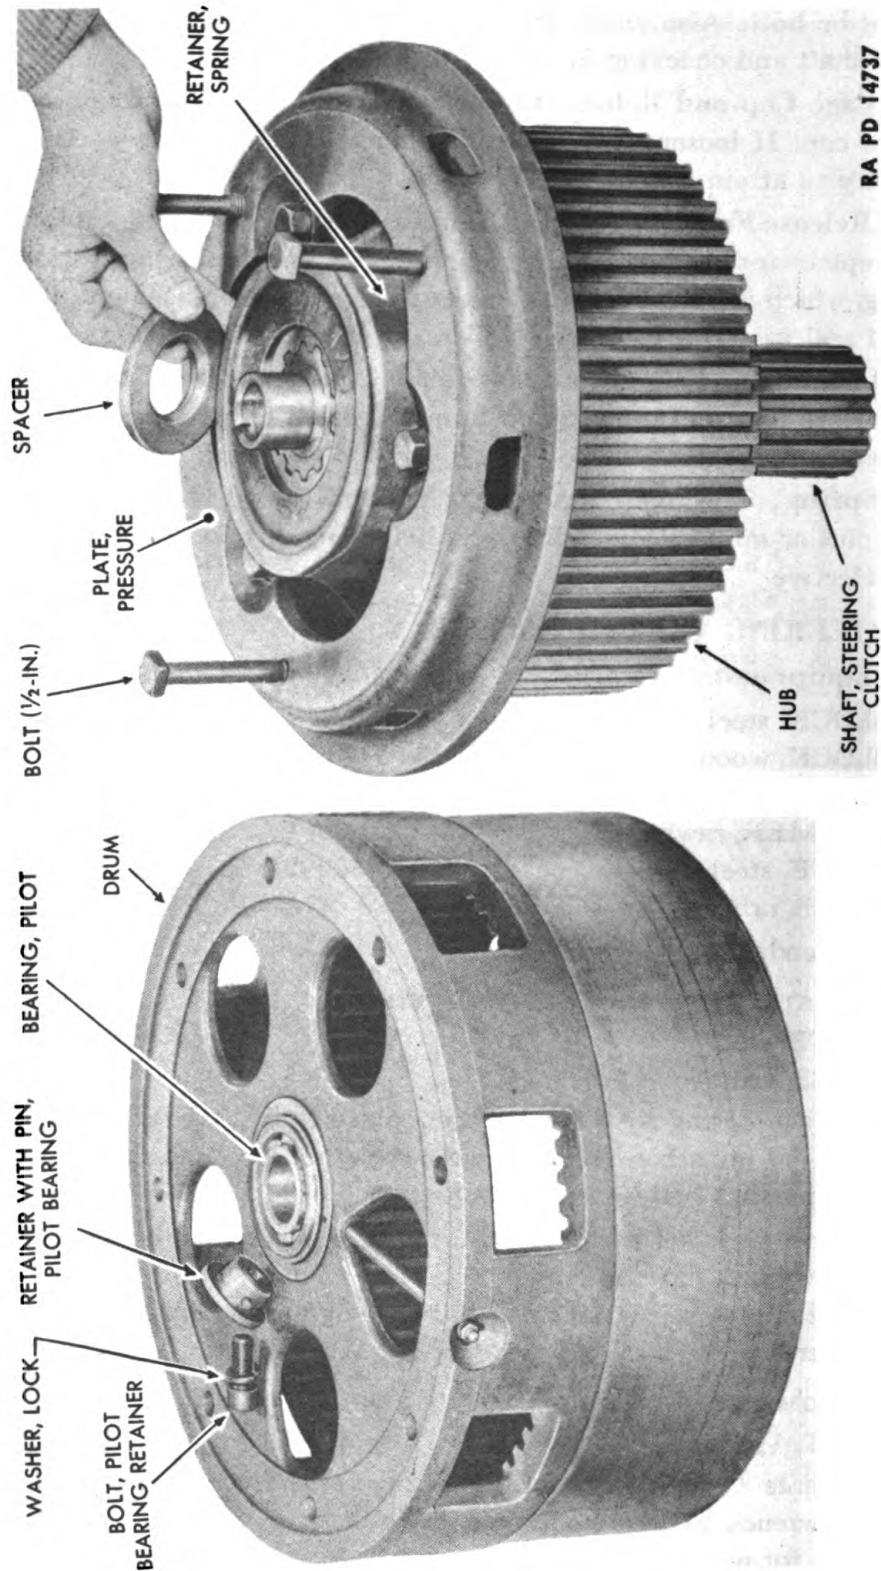

Figure 106 – Steering Clutch Shaft Installation
(2) COMPRESS STEERING CLUTCH SPRING WITH BOLTS (fig. 106).
(3) **INSTALL SHAFT AND DRUM (fig. 106).**